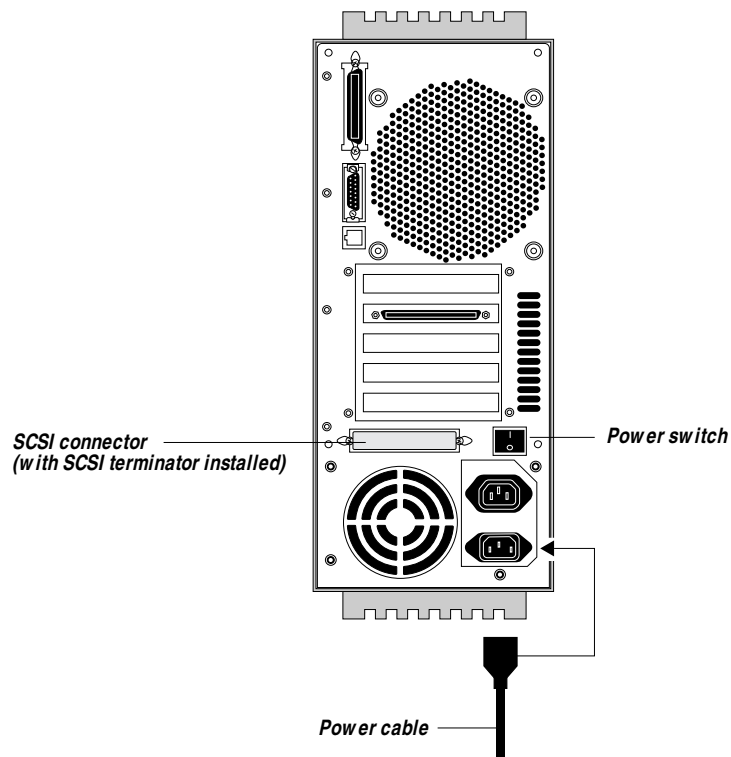

Figure 3-1 Fiery XJ BP100 back panel
1. **Connect one end of the Fiery XJ BP100 power cable to the lower plug at the back of the Fiery XJ BP100 (see Figure 3-1).**